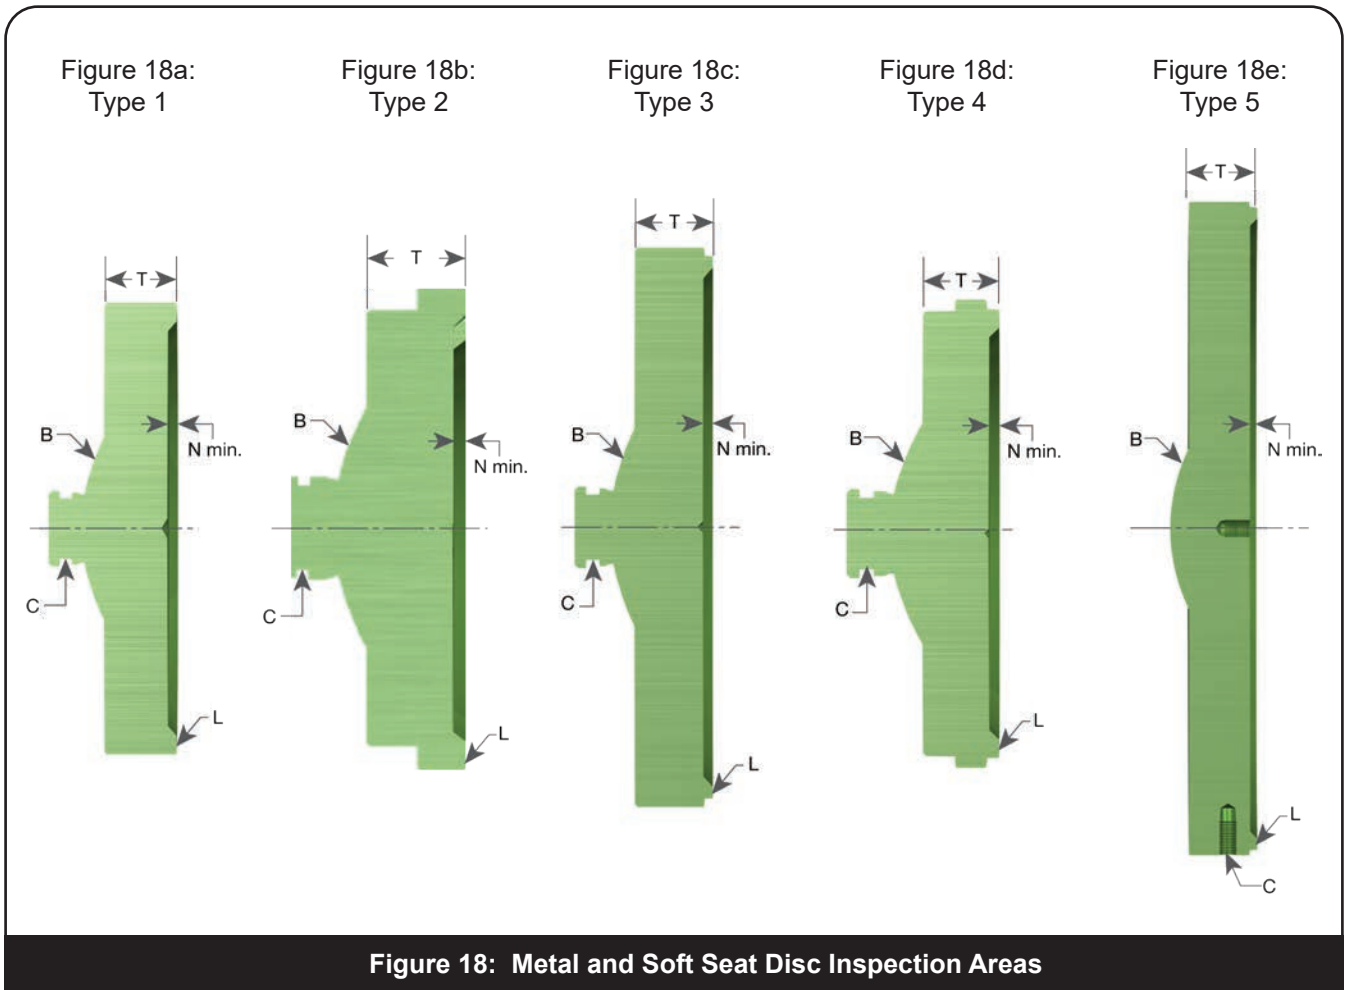

Figure 18: Metal and Soft Seat Disc Inspection Areas
- Discard the disc if the minimum dimension N or T (Figure 18, Table 5) is reached. Do not reestablish surface C.
7. Standard Metal Seated Disc: This disc (Figure 18) can be machined until the T dimension is reduced to the minimum, as listed in Table 5. The N min. dimension must be maintained as well.